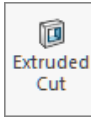

**Fig. 5**
Step 10. Add dimensions, **Fig. 5**.